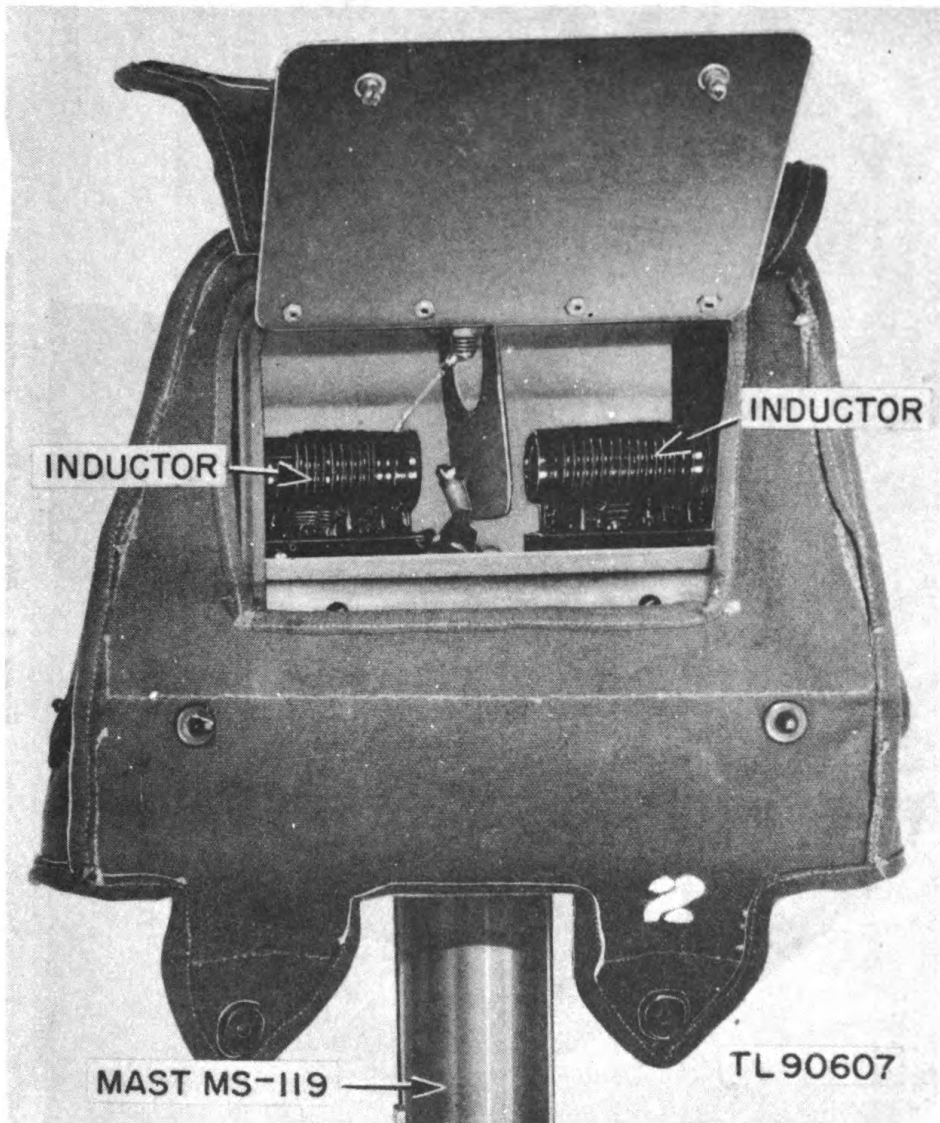

Figure 4. Phase-load box, side view.
(4) At the top of the mast is mounted the phase-load box (figs. 4 and 5), which has a canvas protected sheet metal case. Slots at each end are provided for the